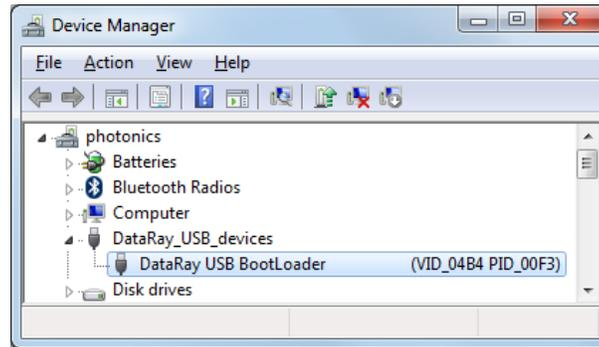

Figure 3.2: Device Manager and Installation.
5. **For USB profilers:** To check that the device was correctly installed, go to **Device Manager** and click + next to **DataRay USB Devices**, then double-click the driver (see Fig. 3.2). If necessary, select **Drivers** and then click on **Update Drivers** to access the **Update Device Driver Wizard** again.